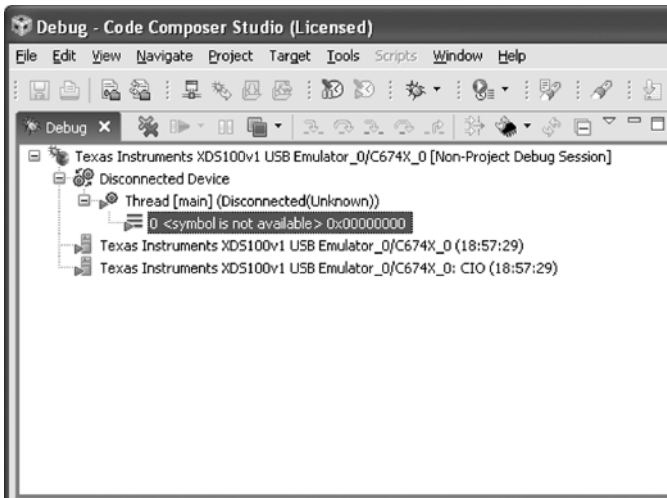
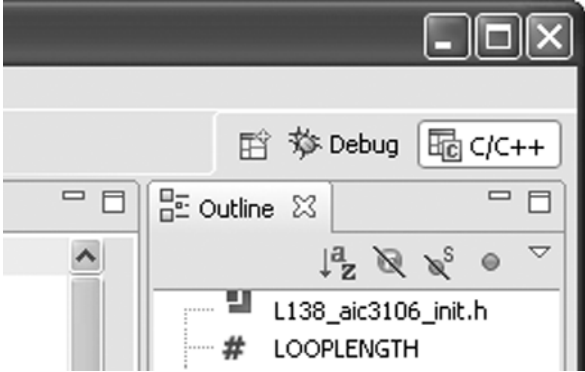

Figure 1.9 *Debug* view as it should appear in the *Debug* perspective after launching the debugger (*Connect* icon grayed out).
Figure 1.10 Switch between *Debug* and *C/C++* perspectives by clicking these buttons.
- (12) Launch the debugger by selecting `Target > Launch TI Debugger`. This should cause Code Composer Studio to switch from the C/C++ perspective to the *Debug* perspective, including a *Debug* window as shown in Figure 1.9. If Code Composer Studio software does not automatically switch to the *Debug* perspective, you can do so using the *Debug* button in the top right-hand corner of the Code Composer Studio IDE window, as shown in Figure 1.10.